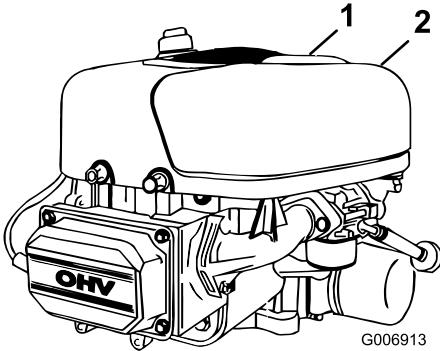

Figure 21
- Pull up on the air cleaner cover handle and rotate it toward the engine (Figure 21).